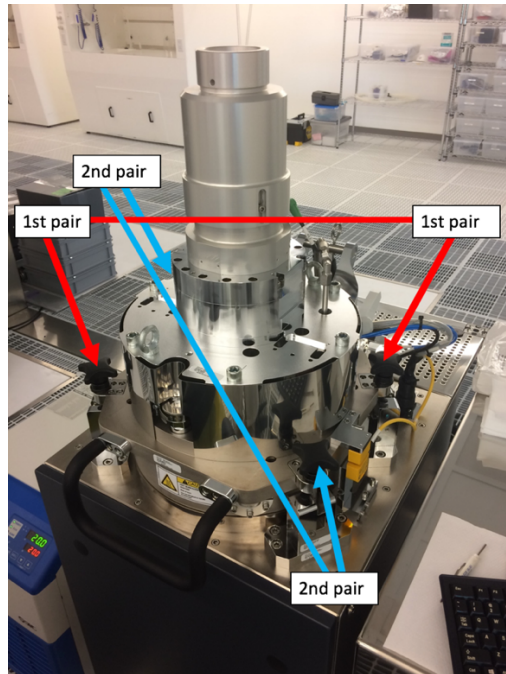

Figure 1: Unlocking the bonding chamber two knobs at a time
- i. Unlock the four knobs holding the chamber down two-knobs-at-a-time, starting at the one closest to the computer and the one diagonally opposite (top-right and bottom-left when facing the bonder). See Figure 1 below for more details.